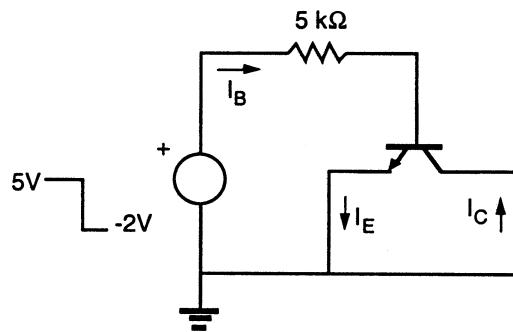

Figure P12.7
**12.7** For the bipolar transistor shown in Fig.P12.7, use the following parameters and neglect any junction capacitances.